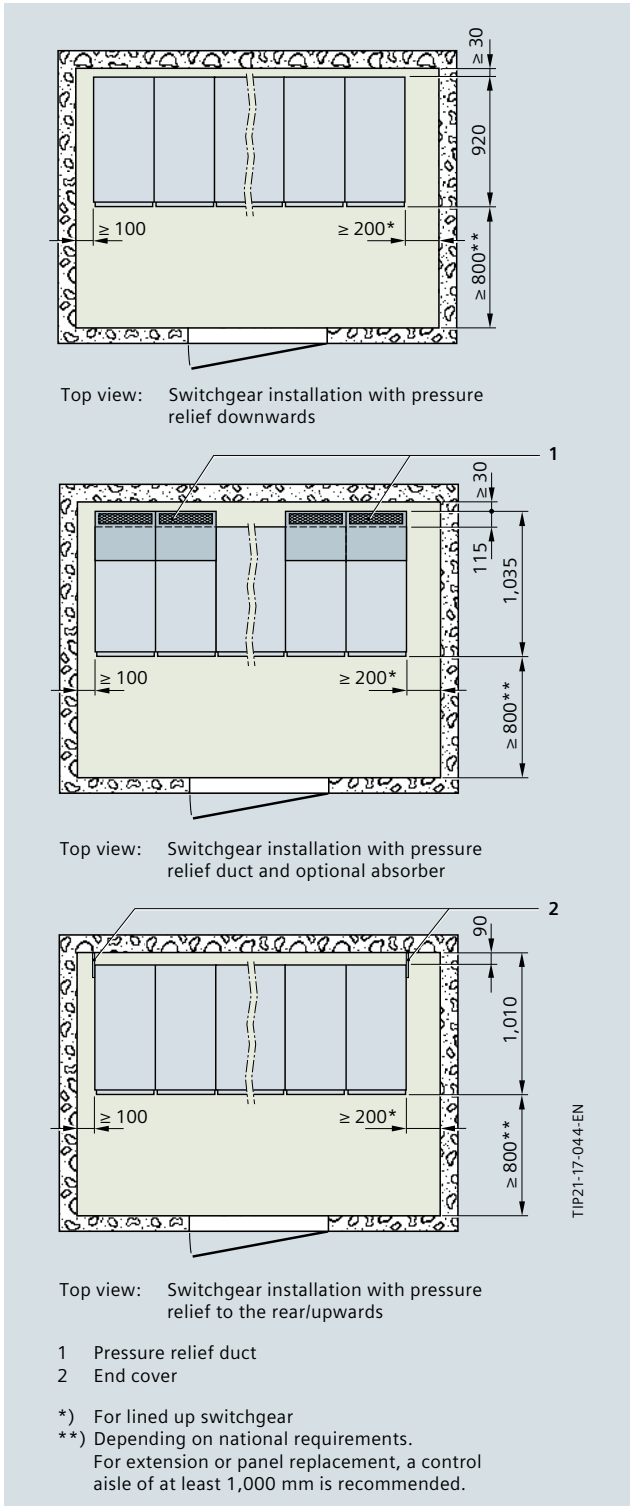

Fig. 2/15: Wall distances for 8DJH 36 (dimensions in mm)
Wall-standing arrangement with wall distances according to Fig. 2/15:
Note: As billing metering panels are 60 mm deeper than other panels, the wall distances in Fig. 2/15 follow these panels (then, +60 mm wall distance for the other panel types).
The following type-tested versions of the pressure relief system (see Fig. 2/16) are available for 8DJH 36 switchgear:
In addition to the information in Tab. 2/2 and Tab. 2/3, the cable and instrument transformer connections as well as their connection height are shown in the panel views (Fig. 2/17).
The dimensions for floor openings and fixing points for panels and switchgear blocks are given in Fig. 2/18. Only standard designs with the different pressure relief possibilities are shown. For panel versions with deep cable compartment cover (deepened by 105 mm or 250 mm), as well as for other versions, please order the dimension drawings via your Siemens partner (www.siemens.com/tip-cs/contact).
- Transport facilities on site (Fig. 2/14)